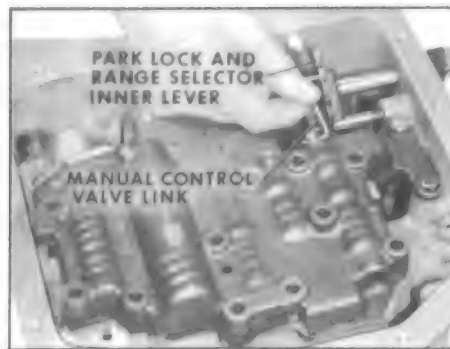

Figure 5-118
9. Remove manual control valve link by rotating valve body in a counterclockwise direction to remove link from Park lock and range selector inner valve. See Figure 5-118.